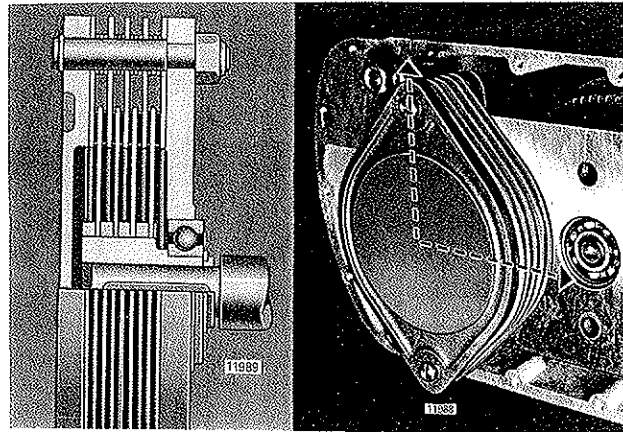

Figure 5-3. Motor Brake Friction Plates.
- f. To check motor brake friction surfaces (Figure 5-3), drain oil from gearcase. Disconnect solenoid coil leads. Remove hex head cap screws securing gearcase cover to gearcase. Remove gearcase cover and attached motor brake actuating mechanism from gearcase.
- g. Remove retaining rings from the brake pilot studs and lift off the compression plate. Lift off washer and lining assemblies, release springs, and motor brake plates. (Note for reassembly, that two of the washer and lining assemblies have friction surfaces on one side only and must be replaced at each end. Three washer and lining assemblies, with friction surfaces on both sides and release springs are replaced between the motor brake plates; see Figure 5-3.) Check motor brake plates for warping, scoring or other signs of deterioration. Also check spline fit of motor brake plates to the brake hub for gouging, mushrooming of the plates or other signs of distress or wear. Replace plates if these conditions are found. Brake plates which are replaced because of spline wear should also receive a replacement brake hub. Check condition of friction material on the washer and lining assemblies, and replace assemblies if required. Reinstall brake plates, release springs, and friction washers in sequence as shown in Figure 5-3 and replace retaining rings. On the Size 3 hoist it is possible to get the lining assemblies misoriented. When installed properly the friction linings will be on a horizontal line (not vertical). Clean and flush gearcase and replace gearcase cover using a new gasket. Refill with new lubricant.